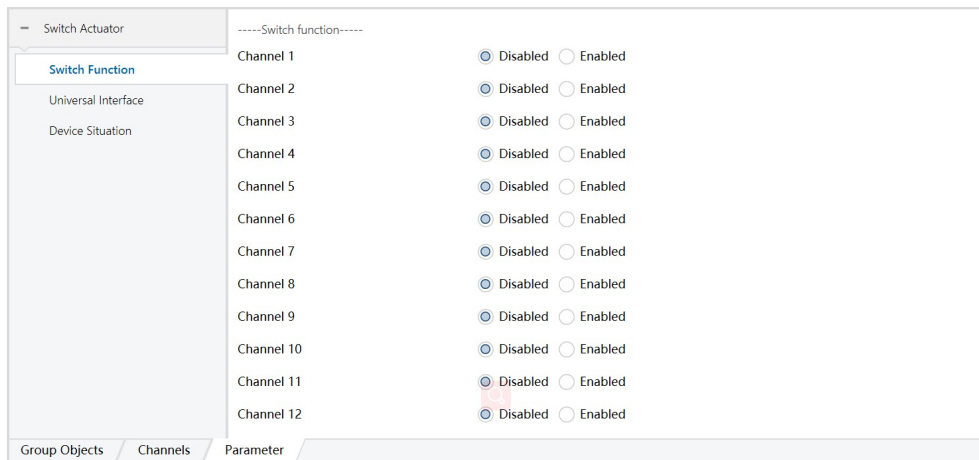

Figure 6.1.1
- 1) Open the 10A series switch execution module parameter setting interface in ETS5, as shown in Figure 6.1.1. The parameter "Channel X" represents the output of the corresponding channel. The parameter "Field control" represents the field control function. When the "off" command is sent, the relay state of each channel is saved and turned off. When the "on" command is sent, the last saved relay state is called. (Note: The "off" command cannot be sent twice in a